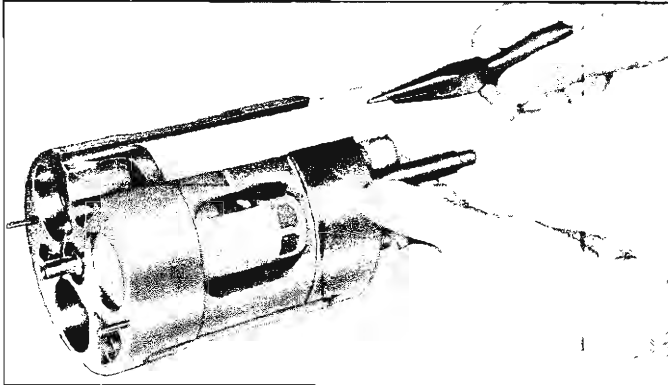

Fig. 39—Removing Suction Crossover Cover
6. Remove the suction crossover cover (fig. 39).